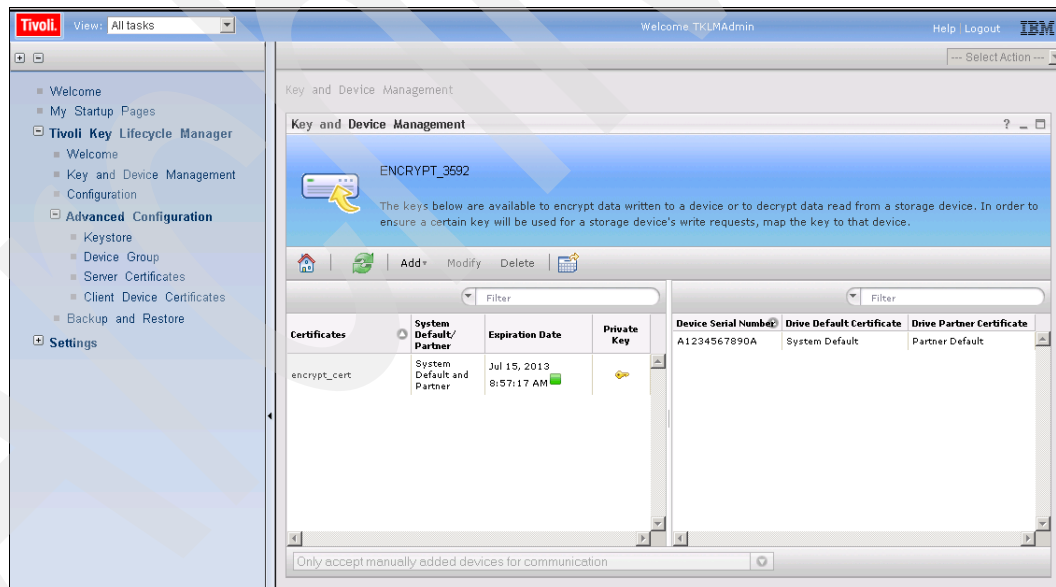

Figure 9-65 3592 certificate successfully deleted
- If the 3592 certificate is successfully deleted, it is removed from the list, as shown in Figure 9-65.